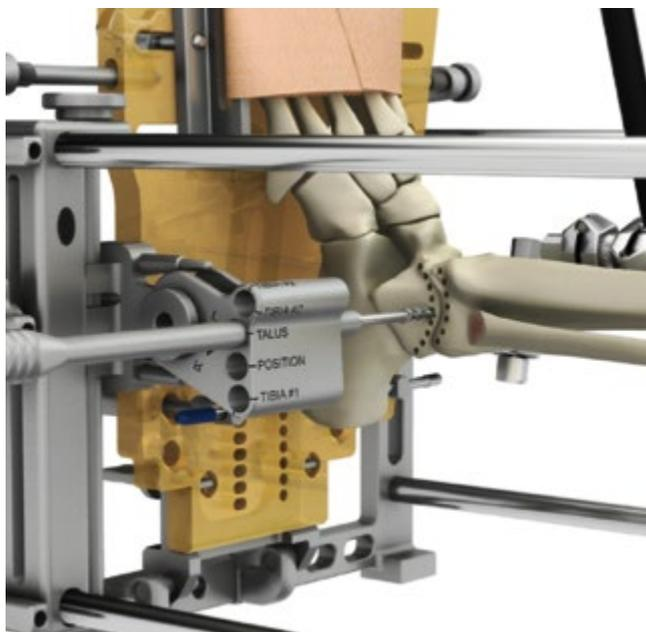

Fig. 48
- Insert the bur assembly through the “Talus” hole in the Cutting Guide until the tip of the Bur contacts the lateral side of the talus at the top of the talar dome (Fig. 48).